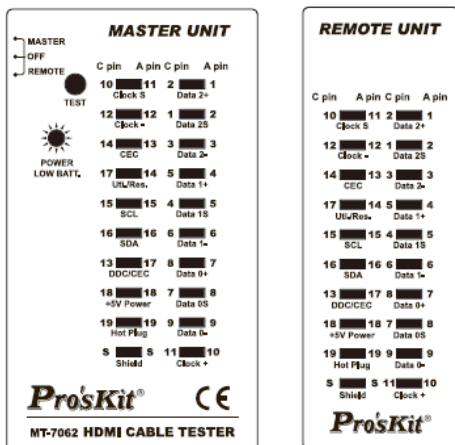
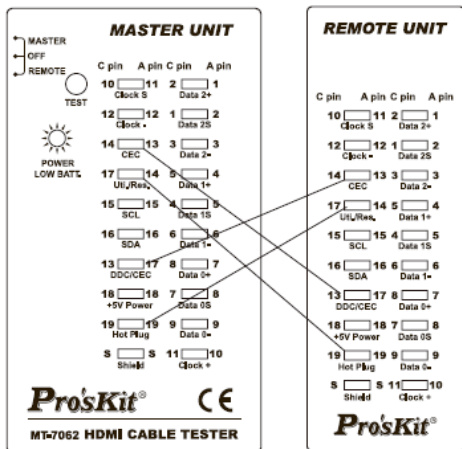

Fig 6. Straight
Fig 9. Crossover
- **Straight** : Master unit and Remote unit both testing pin #1~19 and “Shield” LEDs are all lighted up. (Fig 6.)
- **Straight** : Master unit and Remote unit both testing pins #1~19 and Shield LEDs are all lighted up in sequence. (Fig 6.)
- **Crossover** : Master unit LEDs light up in sequence and Remote unit LEDs light up sequence by crossed pins, Example : test HDMI (A Type) to HDMI (A Type) cable that pin #13 with pin#17 are crossed and pin #14 with pin #19 are crossed, or test HDMI (A Type) to Mini-HDMI (C Type) cable pin #13 with pin #13 and pin #14 with pin #19 are crossed, or test Mini-HDMI (C Type) to Mini-HDMI (C Type) cable pin #14 with pin #13 are crossed and pin #17 crossed with #19 are crossed. (Fig 9.)
2. The test result please refer to the slow continuity scan testing function. (Fig 6. ~ Fig 9.)